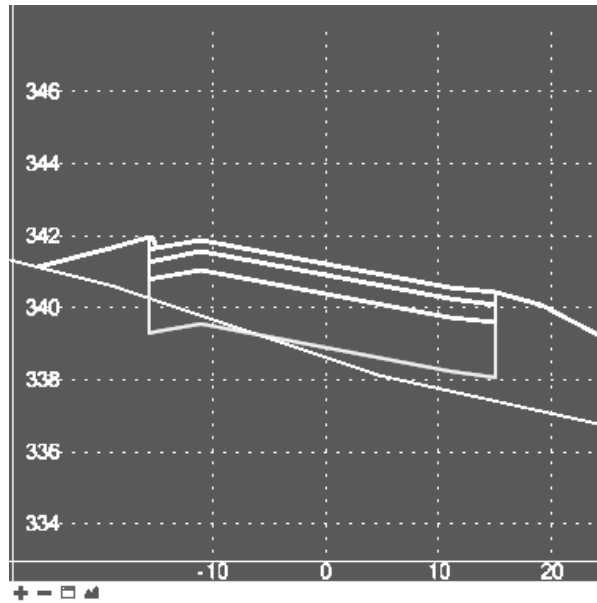
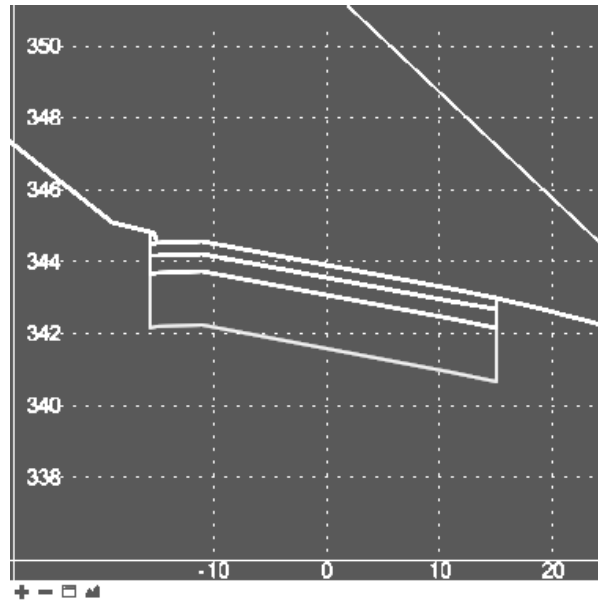

Figure 8-5 No Roll Over Defined
Figure 8-6 Using Roll Over Locks
- N. Using the Superelevation Display mode of the Roadway Modeler, view cross sections along the corridor to verify that the transverse slope is working according to the intended design. Figure 8-5 and Figure 8-6 display designs with and without roll over locks.